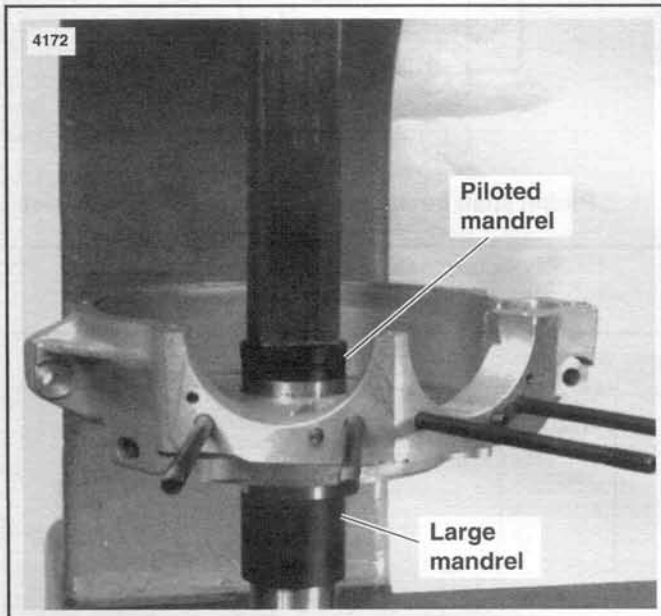

Figure 3-85. Pressing Outer Race Into Case
1. See Figure 3-85. When properly installed, oil hole in lock ring groove will be centered in lock ring gap. Use arbor press and OUTER RACE INSTALLATION TOOL, Part No. HD-39458, to press outer races into crankcase.